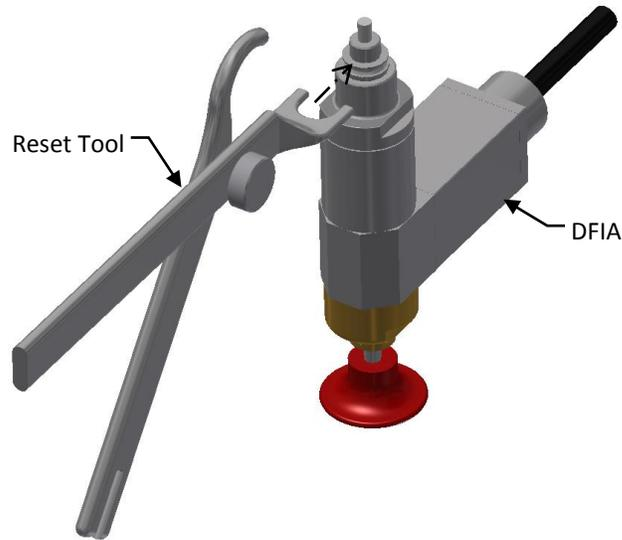

Figure 5 Reset Tool Alignment
5. With the Reset Tool in hand, align the forked end of the tool around the grooved end of the DFIA operator tip as shown in Figure 5.